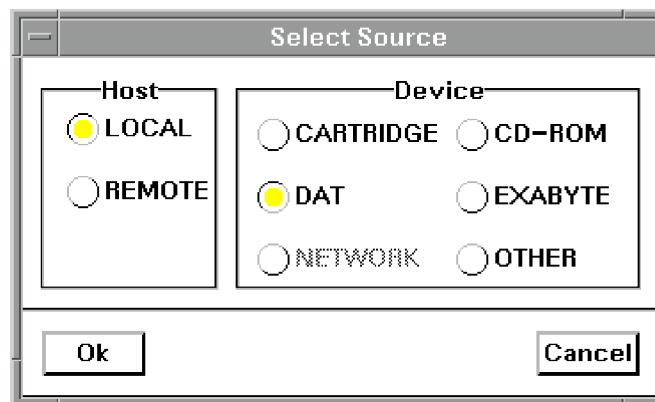

Figure 19. Select Source Window
Used to display the currently selected installation media. Click on the **Select Source** button to open the **Select Source** window (Figure 19). This window allows you to select the installation source device. The device selection defaults to the **DAT** drive on the local machine (the **LOCAL** option in the **Host** panel and the **DAT** option in the **Device** panel).
STEP 1: Select the installation device. Click on the `Select Source` button in the `Source` panel to open the `Select Source` window (Figure 19). Select the device to use as the installation source device. Select `NETWORK` if you are installing a segment from
- STEP 2: Select the installation device.** Click on the `Select Source` button in the `Source` panel to open the `Select Source` window (Figure 19). Select the installation source device and then click on the `OK` button.